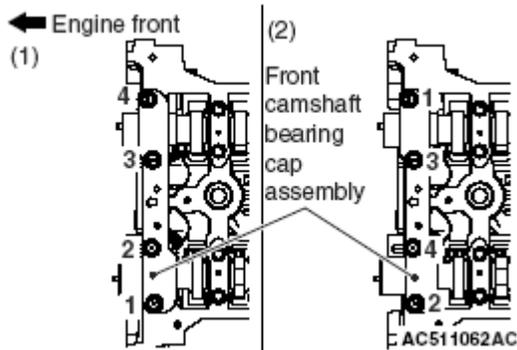

Fig. 109: Identifying Front Camshaft Bearing Cap Mounting Bolts Tightening Sequence
- Install the front camshaft bearing cap to the cylinder head, and temporarily tighten the front camshaft bearing cap mounting bolts to the specified torque in the order (1 in Fig. 109.)
- Tighten the front camshaft bearing cap mounting bolts again to the specified torque in the order (2 in Fig. 109.)